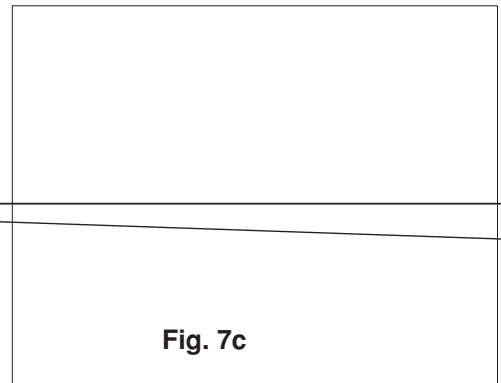

Fig. 7c
- Use wall plugs & screws to secure. (Fig. 7c)